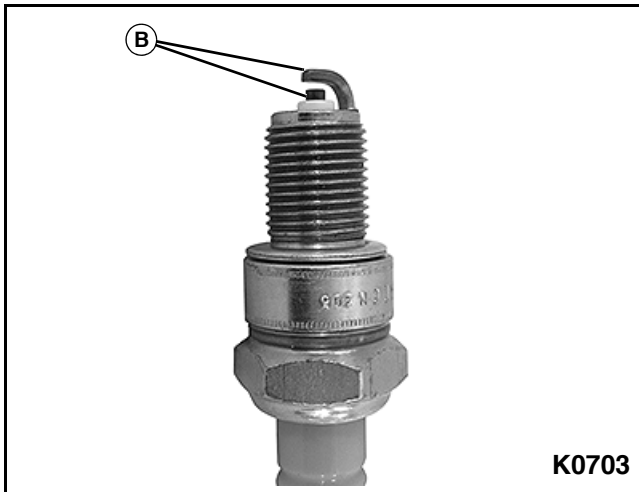

Figure 5-10
6. Inspect the electrodes (B) on each spark plug. See Figure 5-10. The electrodes should be light brown. If the electrode appears to be burned, covered with soot, or fouled with oil, replace the spark plug.